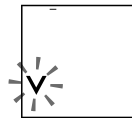

Fig.8
1. Press the START/STOP button. The deflating symbol «**∇**» will flash on the display, and the device will release the remaining air from the cuff (Fig.8).